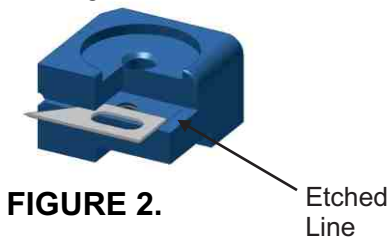

FIGURE 2.
3. Slide new blade into location and align the back end of the blade with the etched line. Replace screw and tighten. Refer to Figures 2.